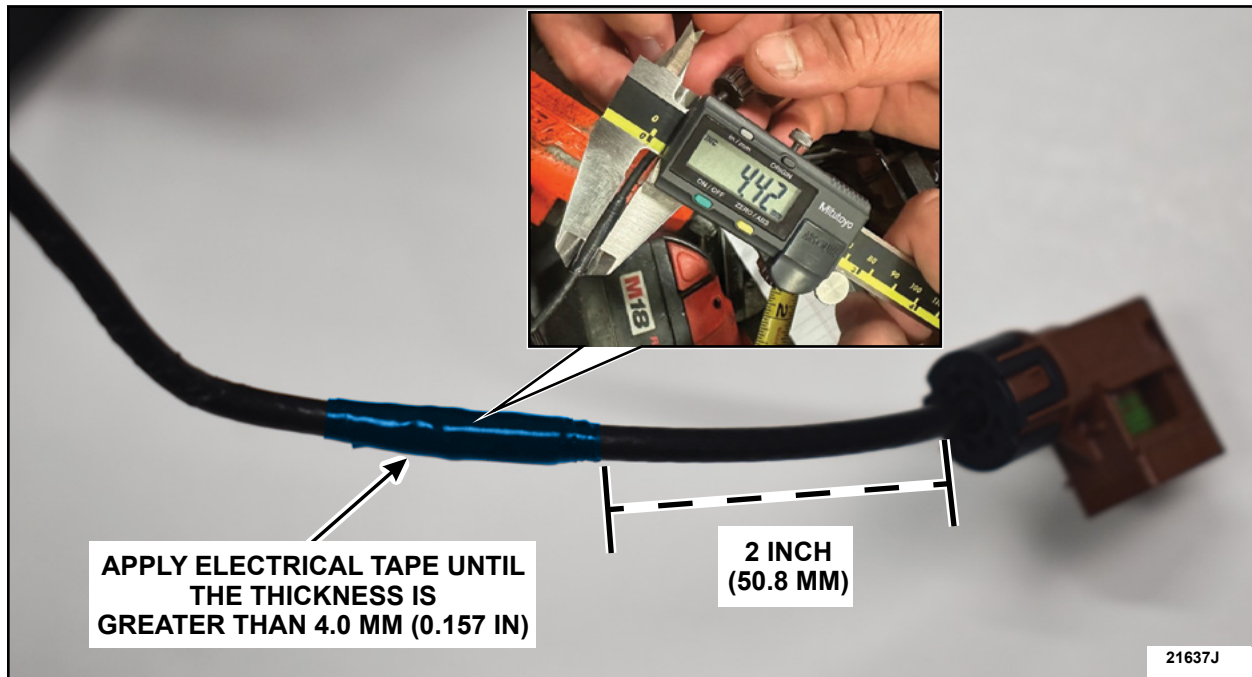

FIGURE 4
5. Measure 2 inch (50.8 mm) from the back of the rear camera electrical connector. Apply wraps of electrical tape and measure using a caliper until the thickness is 4.0 mm (0.157 in) or greater. See Figure 4.